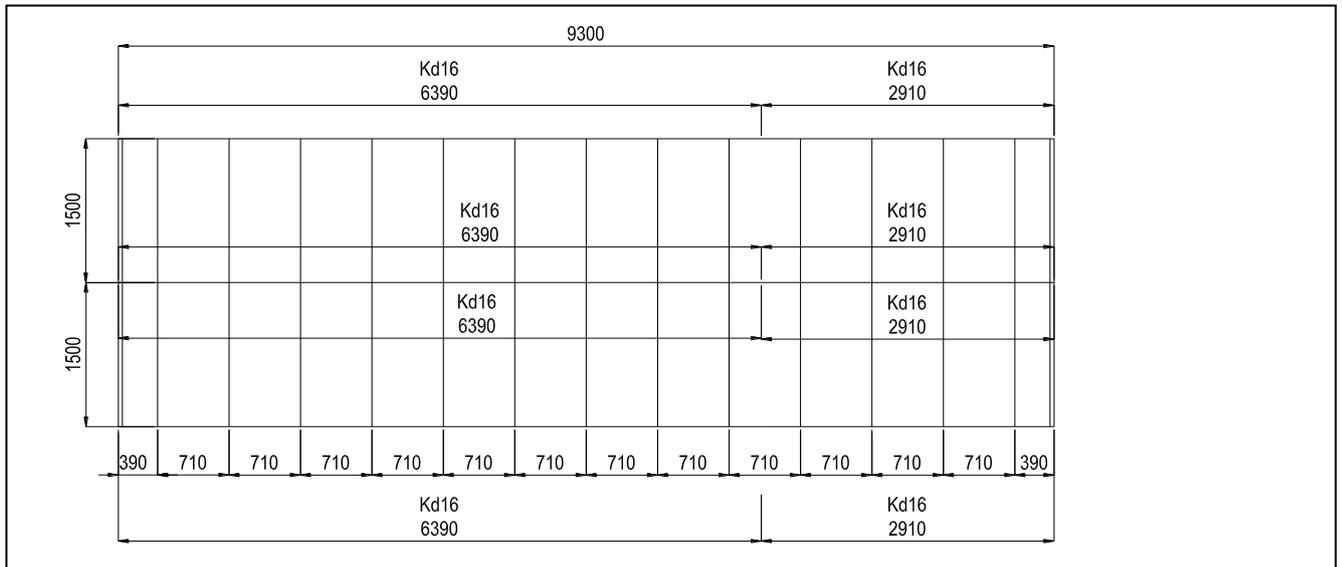

Figure 66 Example layout of the bearing and edge profiles of a dual-pitched rooflight
2. Next, apply PES 40x3 self-adhesive tape along the rooflight base under the edge profiles and the tympanum panel. Once the base has been assembled and insulated, the edge profiles should be fixed to it with $\varnothing 6.3 \times 32$ mm self-drilling screws spaced at 300 – 350 mm intervals. The base should be positioned such that there are at least two screws between the tensioning screw holes. The position of the edge profile in relation to the base should be as shown in (Figure 66). Assembly of edge profiles.